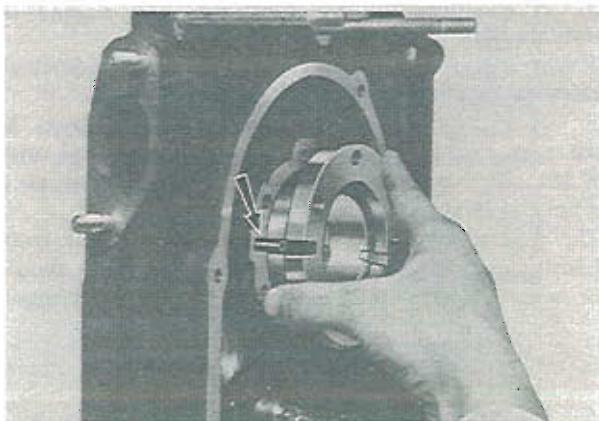

Fig. 1-34 Installing stationary gear
4. Press in the stationary gear to the housing with the **main bearing replacer** (49 0813 235), aligning the slot of the stationary gear flange and the dowel pin on the housing, as shown in Fig. 1-34